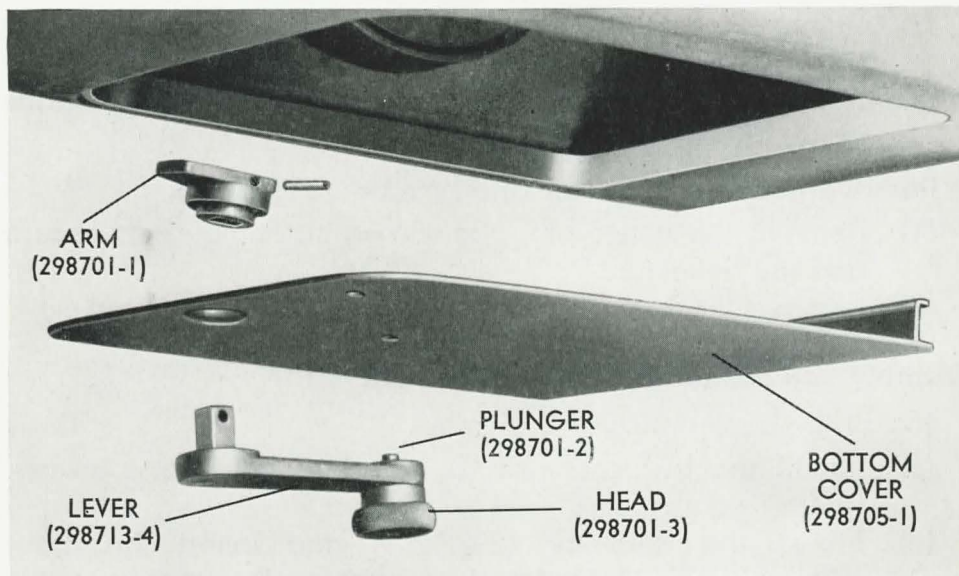

Figure 82
6. Assembly and Installation of the Bottom Cover, Figure 82